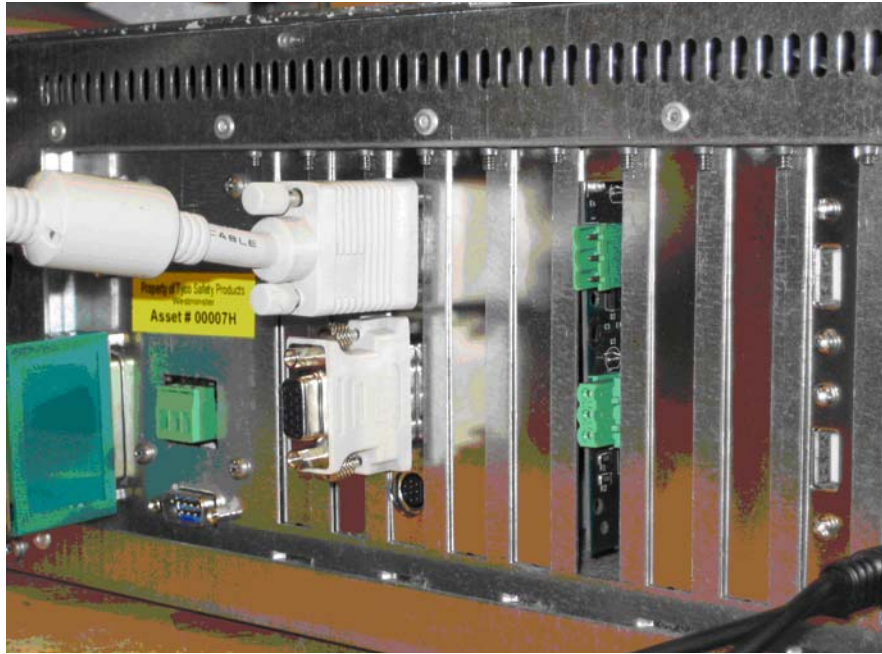

Figure 7-2 Monitor Connections
4. Attach the monitor to the top video connector on the NVIDIA Video board. If both monitors are RGB, Attach the DVI to RGB connector to the middle connector, see Figure 7-2.